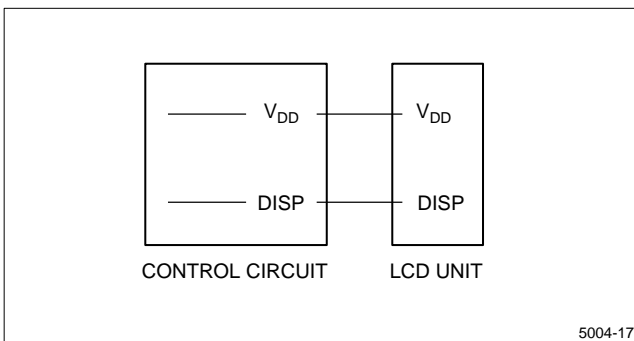

Figure 15. With DISP Control
1. Connection of DISP (pin number 4), refer to Figure 15.